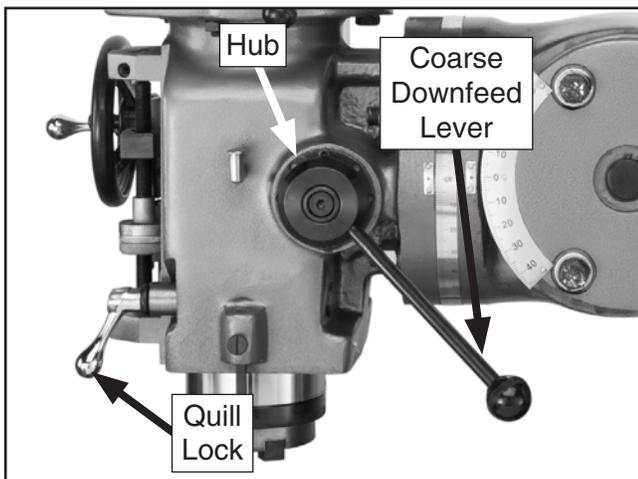

Figure 43. Coarse downfeed handle installed.
3. Make sure pin of the coarse downfeed lever hub is engaged with one of the detents on hub (see **Figure 43**).